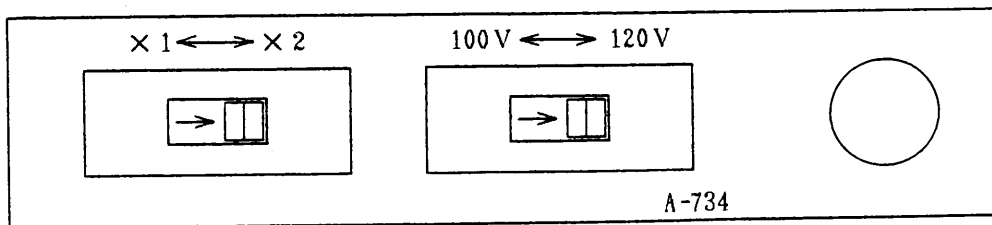

Figure 2-13 For 240V AC line
- (1) Set the switches of the A-734 board as shown in Figure 2-13.
- (2) Seal the switches of the A-734 board with the "AC 240V" seals.
- (3) Post the "AC 240V" seal on the printed "AC 200V" mark at the rear input terminal block.